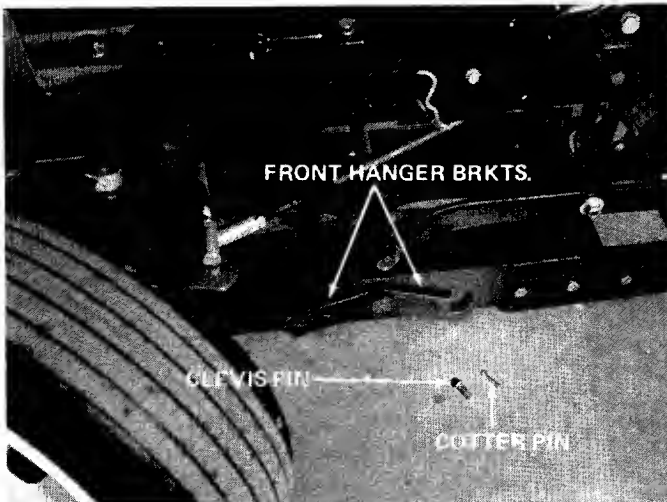

FIGURE 21
7. Remove cotter pin and clevis pin from front hanger brackets. Swing brackets open. See figure 21.